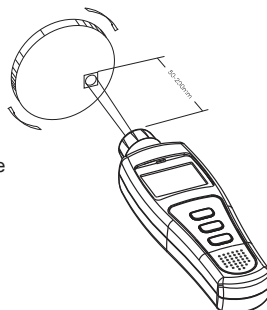

Figure 3
A. RPM Measurement (See Figure 3)